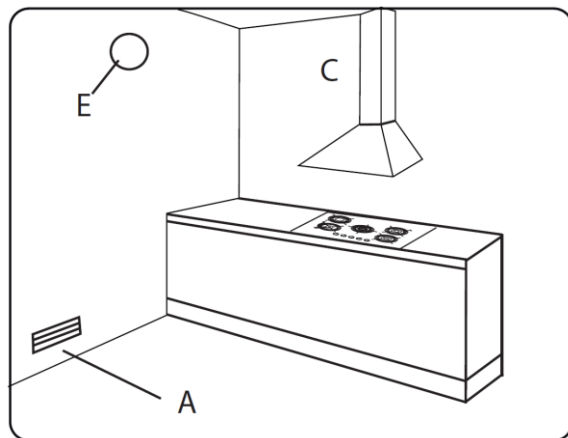

Fig. 6
Installation Area: (Fig. 6)
1. There should be a space providing sufficient natural ventilation in order to burn the gas properly in the room where the appliance is installed (A) – figure 6.